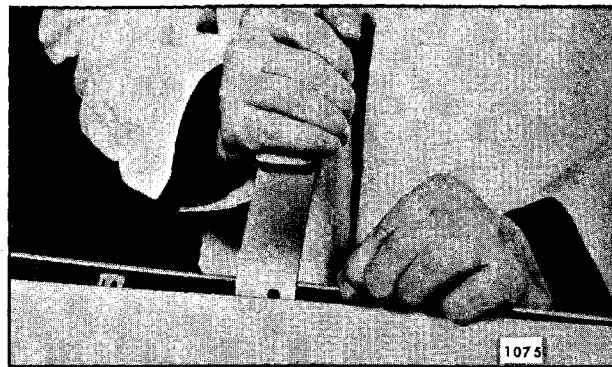

Fig. 7-130—Glass Run Channel Inner-Outer Strip Removal - "A-X & Z" Styles
2. Insert a flat-blade tool that is slotted to fit over tang of clip between door panel return flange and strip assembly at clip locations (Fig. 7-130).